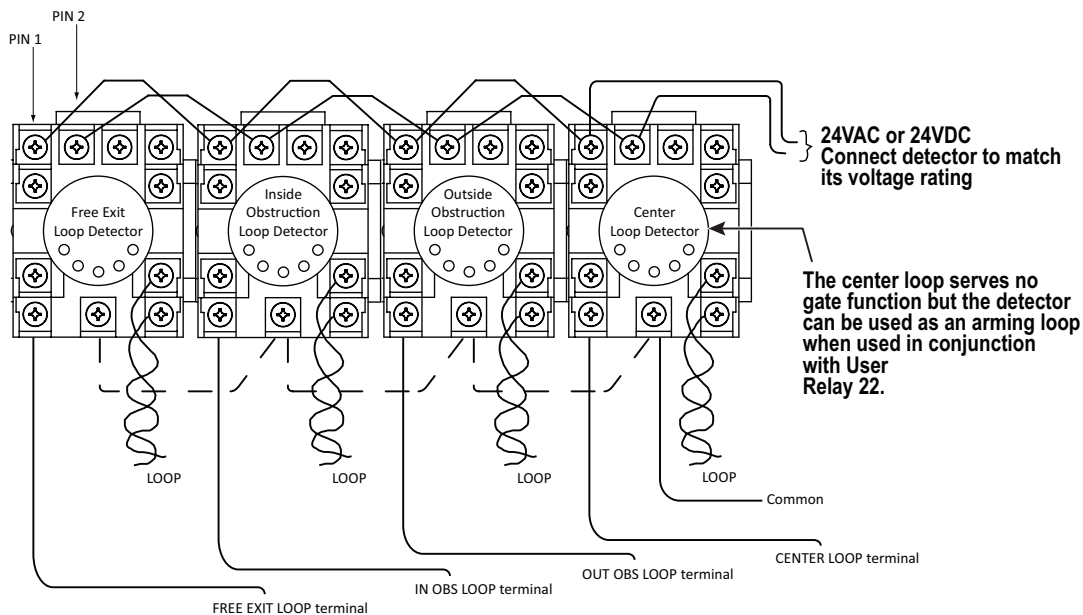

Figure 53. Standard 11-Pin Box Type Vehicle Detector
HySecurity's custom HY-5B mini-detector module (Figure 53) plugs directly into the Smart DC Controller board making field installation much faster plus providing a large performance benefit. The detector communicates with the Smart DC Controller microprocessor to achieve the following benefits over common box type detectors:
1. If there is sufficient space, install the sockets in the control box; if not, then install them in a separate external housing. Figure 53 is for general reference only.
4. If multiple detectors are used, route the power wires and common wire from socket to socket (daisy chaining) rather than individually running each wire to the same location. See Figure 53. The only wires that are separate are the output wire to the Smart DC Controller and the detector loop input wires.